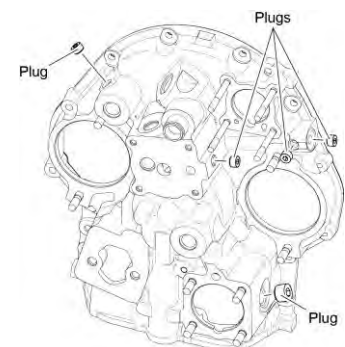

Figure 9
- F. Install plugs in the accessory housing (Figure 9) with a new O-ring as required.